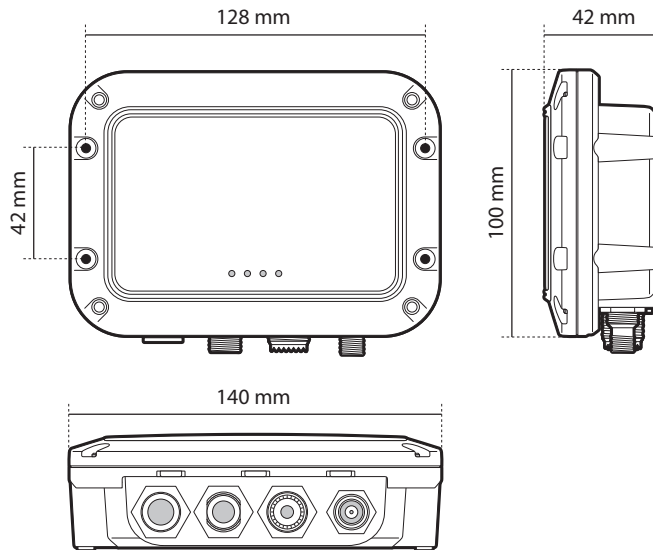

Figure 5 AIS transceiver dimensions
- There should be adequate space around the AIS transceiver for routing of cables. See Section Figure 5 for details of the AIS transceiver dimensions.